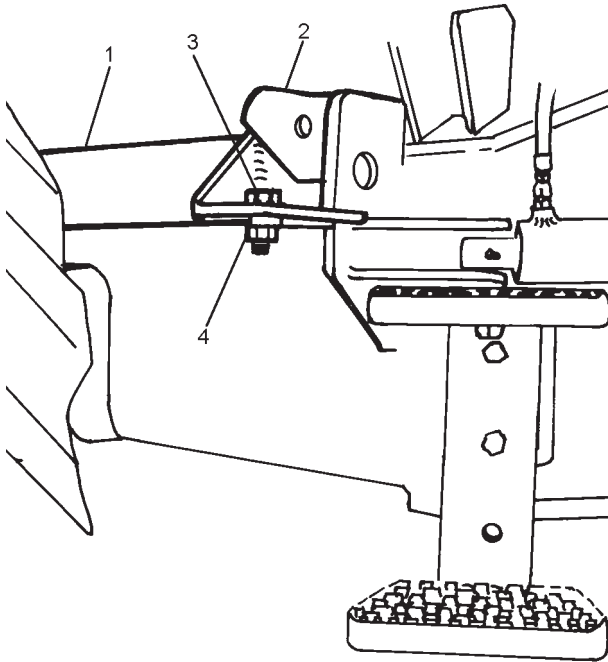
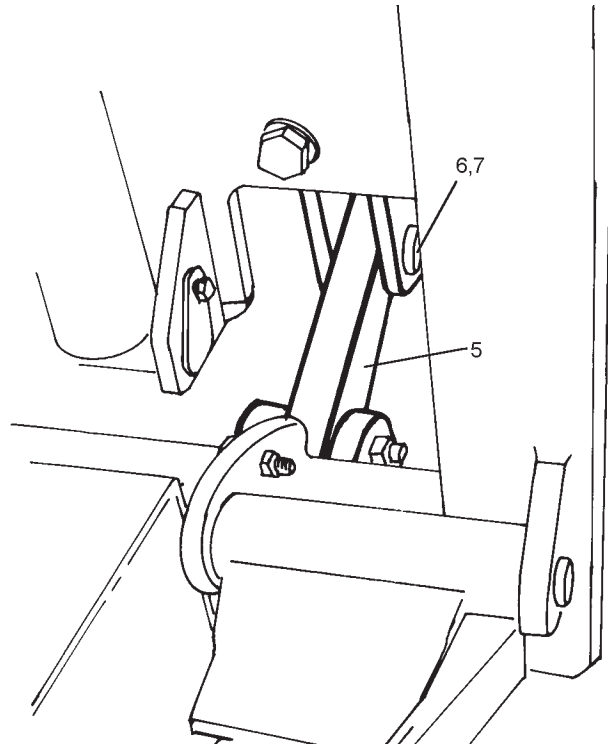
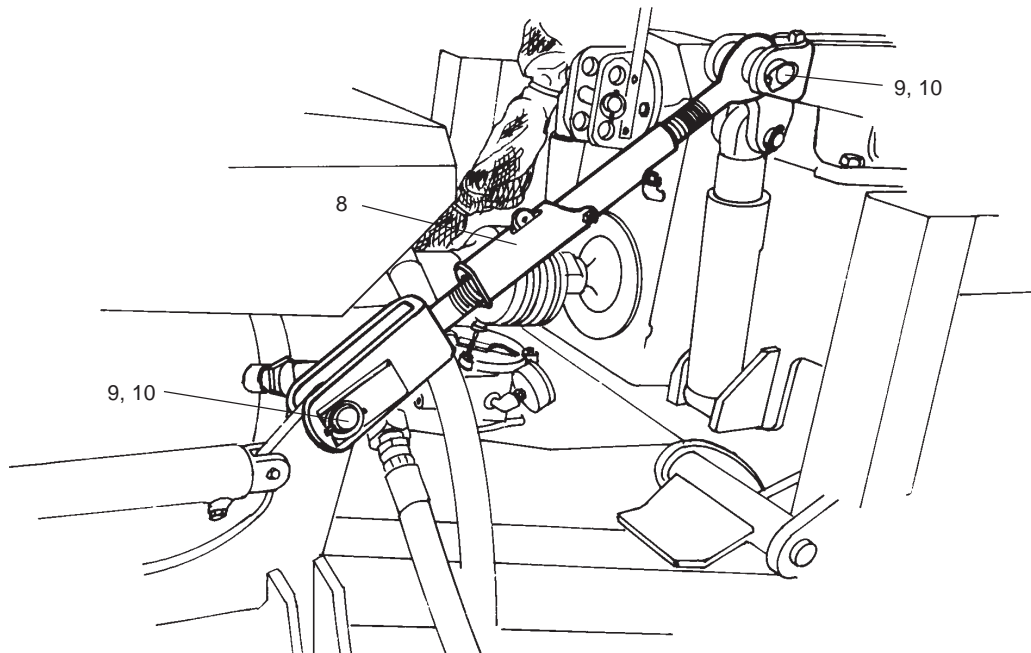

FIGURE 3
FIGURE 4
FIGURE 5
Raise the Attachment Frame Arms(1) to a level height. Drive Tractor into Attachment Frame and align with the Tractor Attachment Frame Mounts (2). Retain with bolt (3) and locknut (4). **Figure 3.** Attach the Axle Mount Bars (5) to the Tractor lugs with Pins (6) and Lynch Pins (7). **Figure 4.** Attach the Down Links (8) to the Mainframe with Pins (9) and Lynch Pins (10). **Figure 5.** **NOTE:** Adjust down links to 28" pin center.